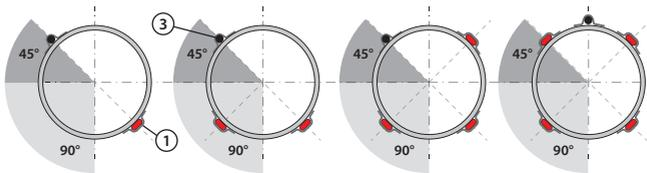

Fig. 2
5. Straight lines and sensor must be fitted as shown at Fig.2. Twisted lines are attached as shown for every approx. 1 m pipe with aluminum tape.